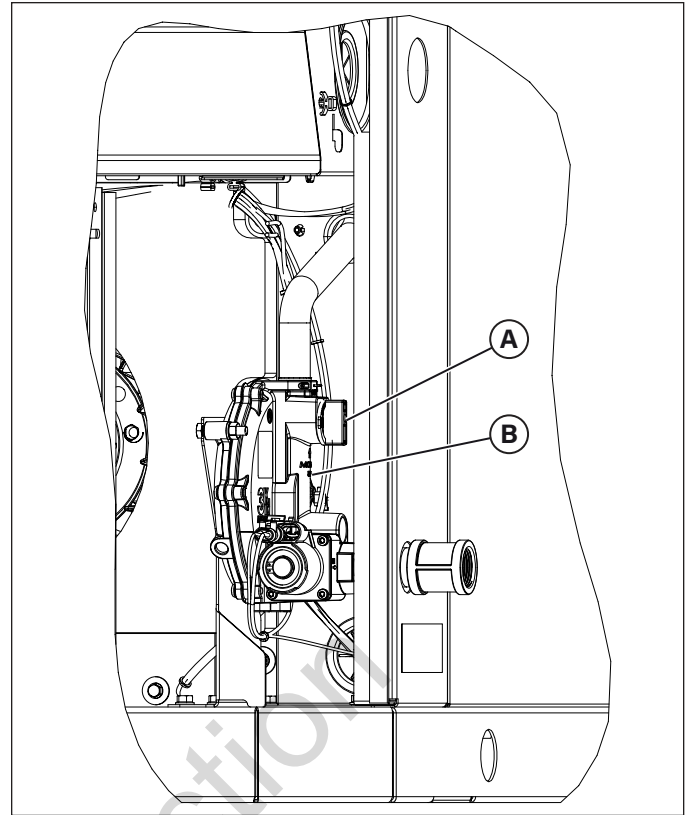

Figure 10
8. Find the fuel selector valve (A) on top of the fuel regulator (B). See Figure 10.